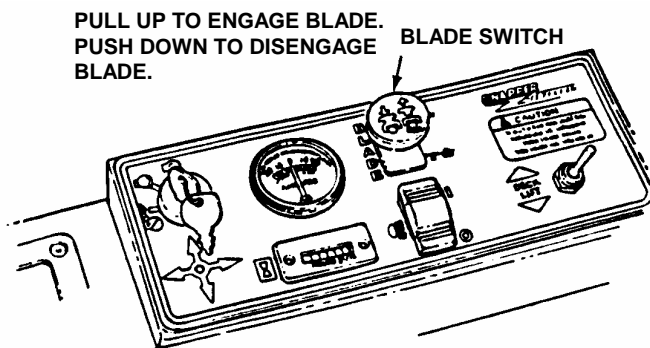

FIGURE 2.2
**2.1.4.** Check Blade switch to insure it works freely. Switch is pulled "UP" for blade engagement or pushed back "IN" for blade disengagement. See Figure 2.2. **IMPORTANT:** Disengagement stops blades.
3. Push blade switch in to "OFF", blades disengaged position and engage parking brake. See Figure 2.2.
1. Push the blade switch in to "OFF" position to disengage or stop the mower blades. See Figure 2.2.